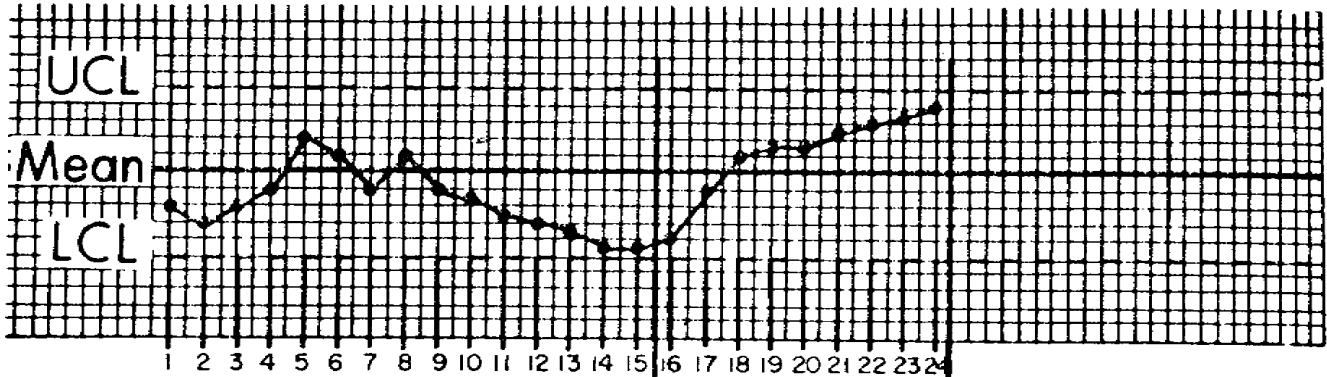

Figure 30
f. Figure 30 shows the same thing, only in reverse. Apparently the operator overcorrected the replenishment (from the low trend) and now there is a high trend.